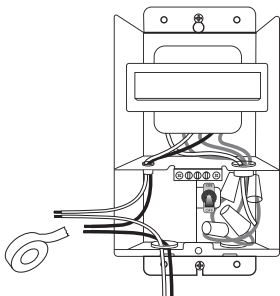

Figure 4
5. Use electrical tape to connect the Black Wire and White Wire of the High Voltage Wiring Compartment with your live and neutral wires separately, then place these connected wires in the High Voltage Wiring Compartment. (Figure 4)